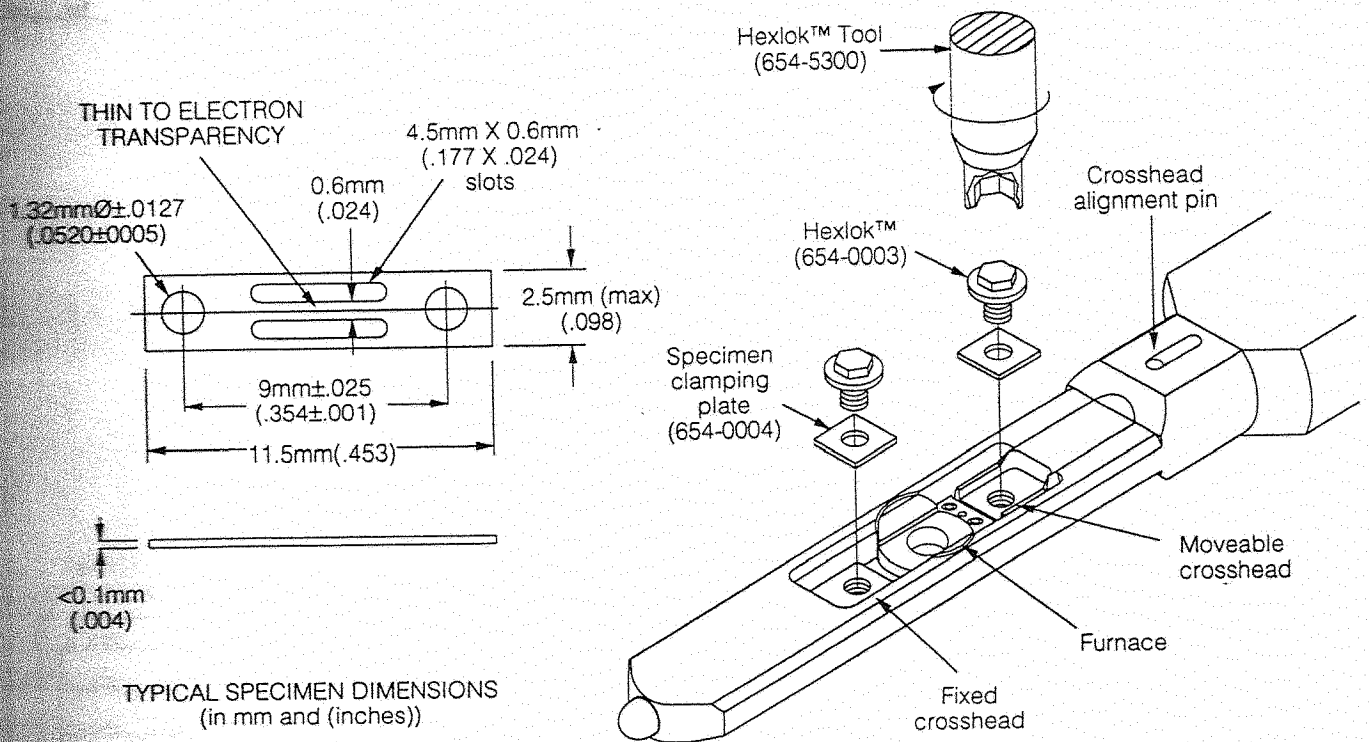

Figure 2. Recommended specimen dimensions and specimen loading tools
3. Specimen loading (see figure 2)
A drawing of the specimen tip showing the tools needed for specimen loading is shown in figure 2. The figure also shows the recommended design and dimensions of the tensile specimen for *in situ* experiments. Normally, tensile specimens of the type shown in figure 2 are made using some form of photo-resist etching technique. They can also be made by milling a thin foil that has been glued to a supporting substrate. The central web of the specimen shown in figure 2 must be thinned to electron transparency by electrolytic or ion polishing. The two outer arms of the specimen are left unthinned in order to provide the mechanical support for the thin central web. Having prepared the specimen the specimen loading steps are as follows:
5. Specimen loading (see figure 2)